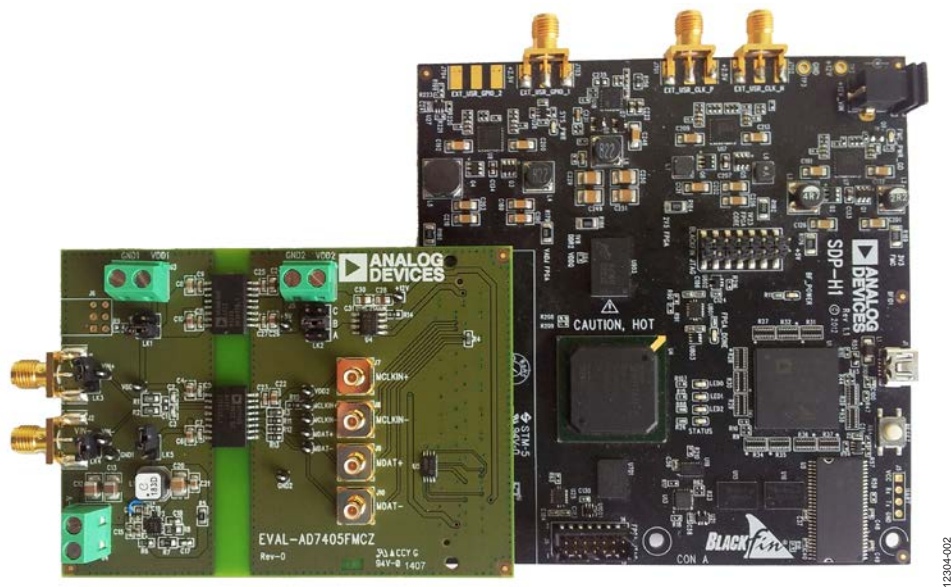

Figure 2. EVAL-AD7405FMCZ (Left) Connected to the EVAL-SDP-CH1Z Board (Right)
3. Connect the EVAL-SDP-CH1Z board to the evaluation board as shown in Figure 2.
The EVAL-AD7405FMCZ connects to the EVAL-SDP-CH1Z system demonstration platform. The EVAL-SDP-CH1Z board is the controller board, which is the communication link between the PC and the main evaluation board. Figure 2 shows a photograph of the connections between the EVAL-AD7405FMCZ daughter board and the EVAL-SDP-CH1Z board.